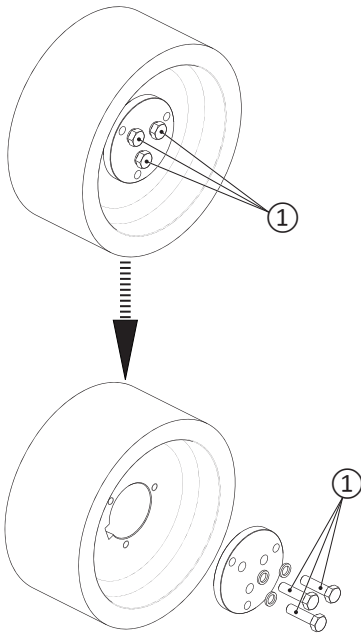
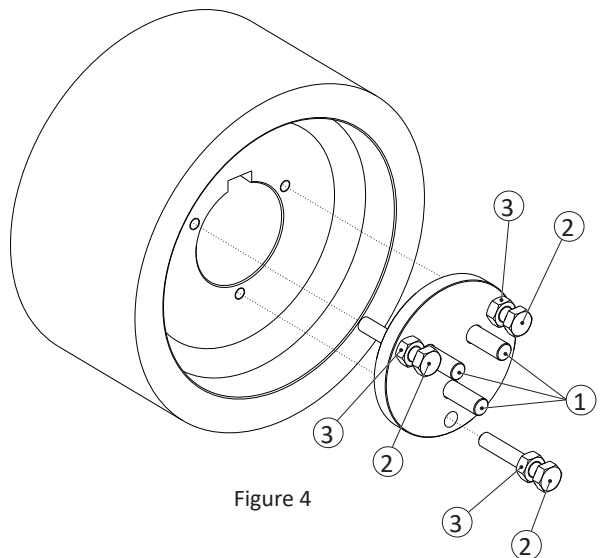

Figure 3
Figure 4
- Unscrew the retaining screws ① "Figure 3" and place them as shown in "Figure 4".
- Tighten the nuts ③ on the screws ② and place them as shown in "Figure 4".
- Tighten the ② screws by 15/20 mm in the threaded holes on the pulley.
- Remove the pulley by tightening in circular sequence the nuts ③, while holding the pulley screws ② firm.
- ① VITI M12x50 (Ø120) M12x60 (Ø160/200/210)
- ② SCREWS M10x60 (not included in the standard supply)
- ③ NUTS M10 (not included in the standard supply)